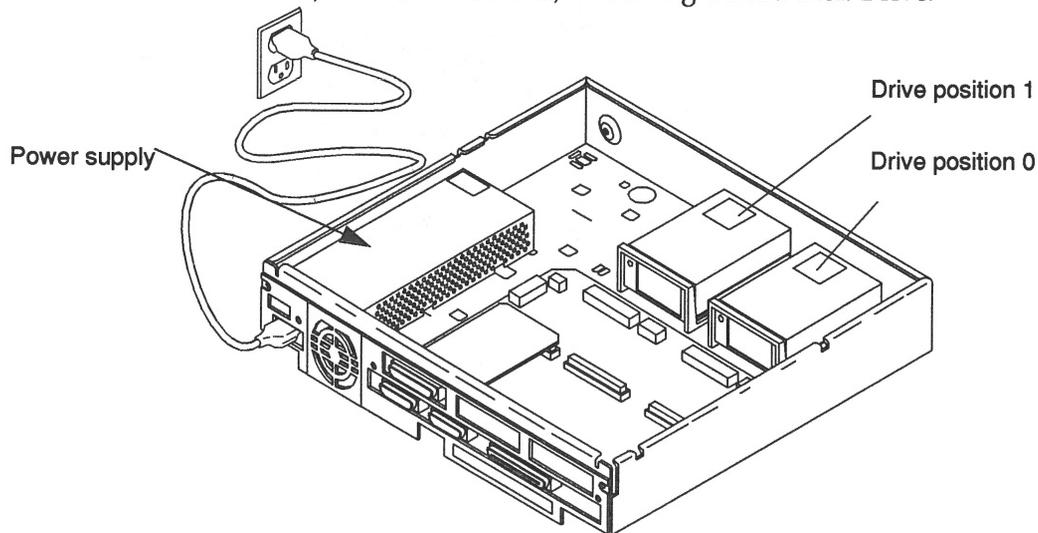

Figure 4-6 Drive Locations
2. **Attach the end with the adhesive copper strip to the metal casing of the power supply in the subsystem unit. Refer to Figure 4-6.**
Refer to Figure 4-6 for the location of the drives. If you are installing only one disk drive, install the drive in position 0 (near the side of the chassis). To install a drive, refer to the section, "Installing a Hard Disk Drive."